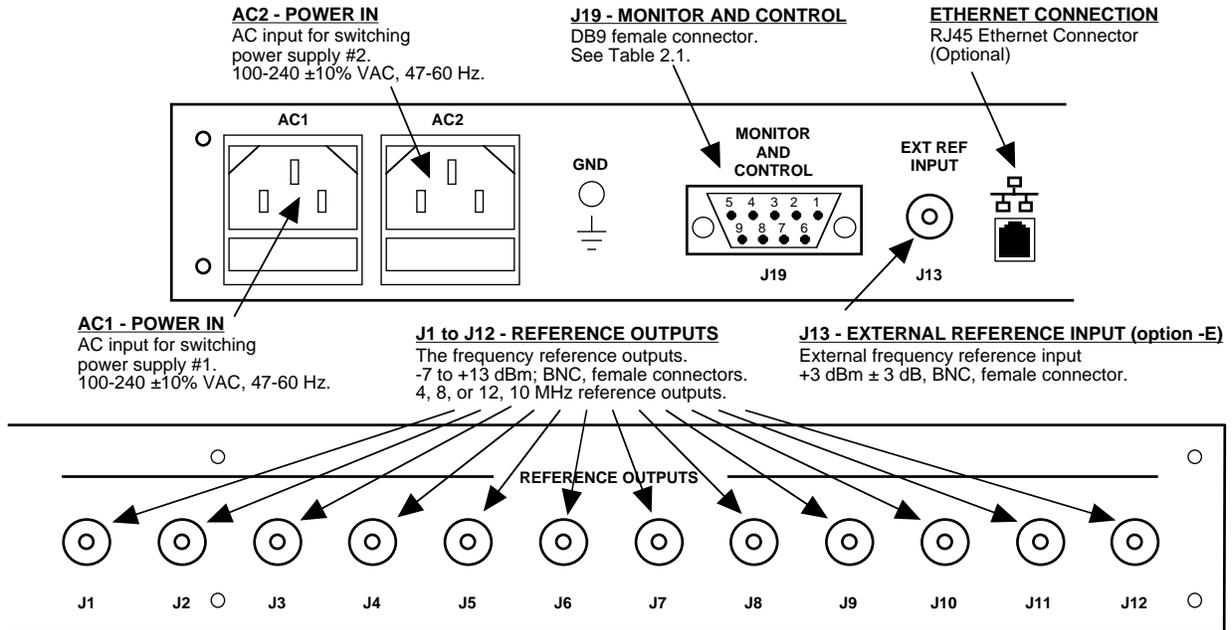
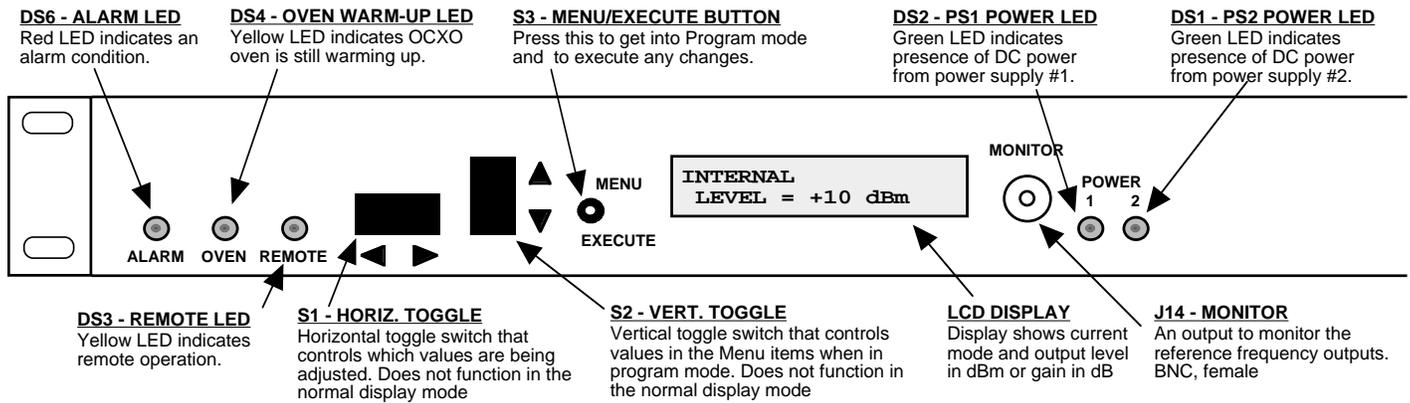

FIGURE 2.1 2099-10xx Rear Panel Outputs
FIGURE 2.2 2099-10xx Front Panel Controls and Indicators
*FAULT occurs when in EXT LOCK AUTO mode and the external reference fails. This status can be reset remotely using the command in Table 1.2 or manually by pressing Menu/Execute followed by pressing up once or down once on the vertical toggle switch on the front panel (see Figure 2.2).
2.2 Rear Panel Output Signals - Figure 2.1 shows the input and output connectors on the rear panel.
1. Connect 100-240 \pm 10% VAC, 47-63 Hz to AC1 and AC2 connectors (Figure 2.1).
2. Be sure DS1 and DS2 LEDs (green, POWER) are on (Figure 2.2).
5. (option -E only) Choose one of the five (5) modes (Internal, Ext Pass, Ext Pass Auto, Ext Lock, or Ext Lock Auto) in which to operate the unit.
7. Connect J1 thru J4 (REFERENCE OUTPUTS) to desired equipment (Figure 2.1).
8. Monitor reference output signal with J14 (MONITOR) (Figure 2.2).
Alarm indications appear on the LED (see Figure 2.2).